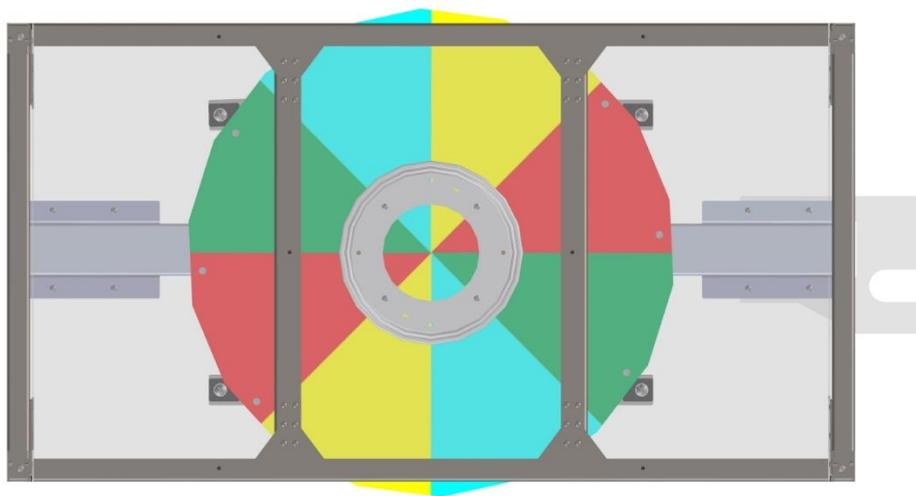

Figure 3-23 TRENCH bottom view
The CONTROL PANEL is divided into eight (8) equal size wedges. Wedges are red, green, blue, and yellow (see Table 3-3 for CMYK values) and visible from above and below the CONTROL PANEL. Colors are arranged as shown in Figure 3-23 and line up top and bottom. The arc length of each wedge is 1 ft. ½ in. (~32 cm). Fasteners in the CONTROL PANEL create holes in the colored wedges.